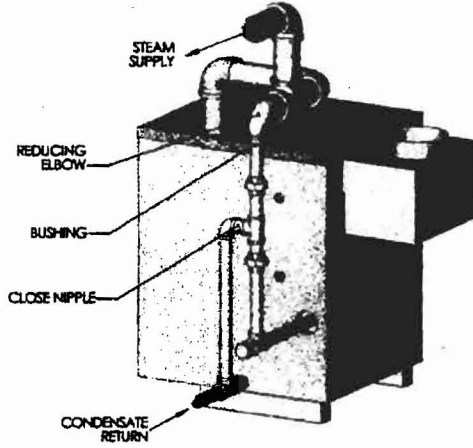
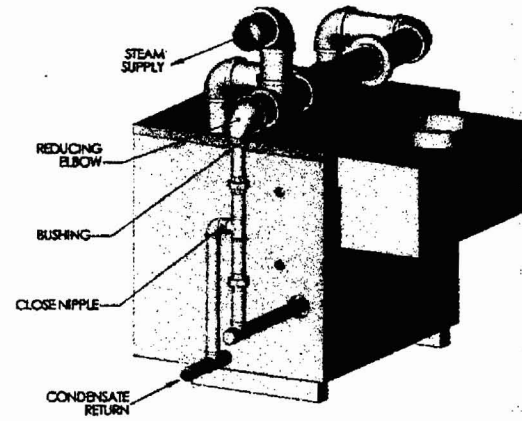

Figure 4.3: Steam Piping - Single Supply Connection
Figure 4.4: Steam Piping - Dual Supply Connections
2. Install steam supply pipes as shown in Figure 4.3 for Model 63-03 to 64-07 and Figure 4.4 for Model 64-08 to 64-12. The minimum quantity and size of supply pipes are indicated in Table 4.1.
5. Connect the equalizing line as shown in Figure 4.3 or 4.4 assuring that the reducing elbow is facing down and that any bushings are vertical to prevent water build-up in the steam header.